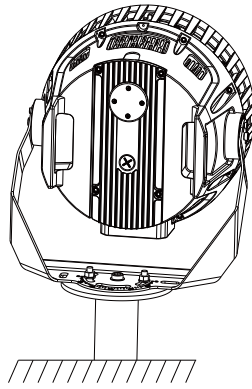

Figure 10
1. Fix the product on the disc holder and lock the screws, no need too tight (Figure 10)